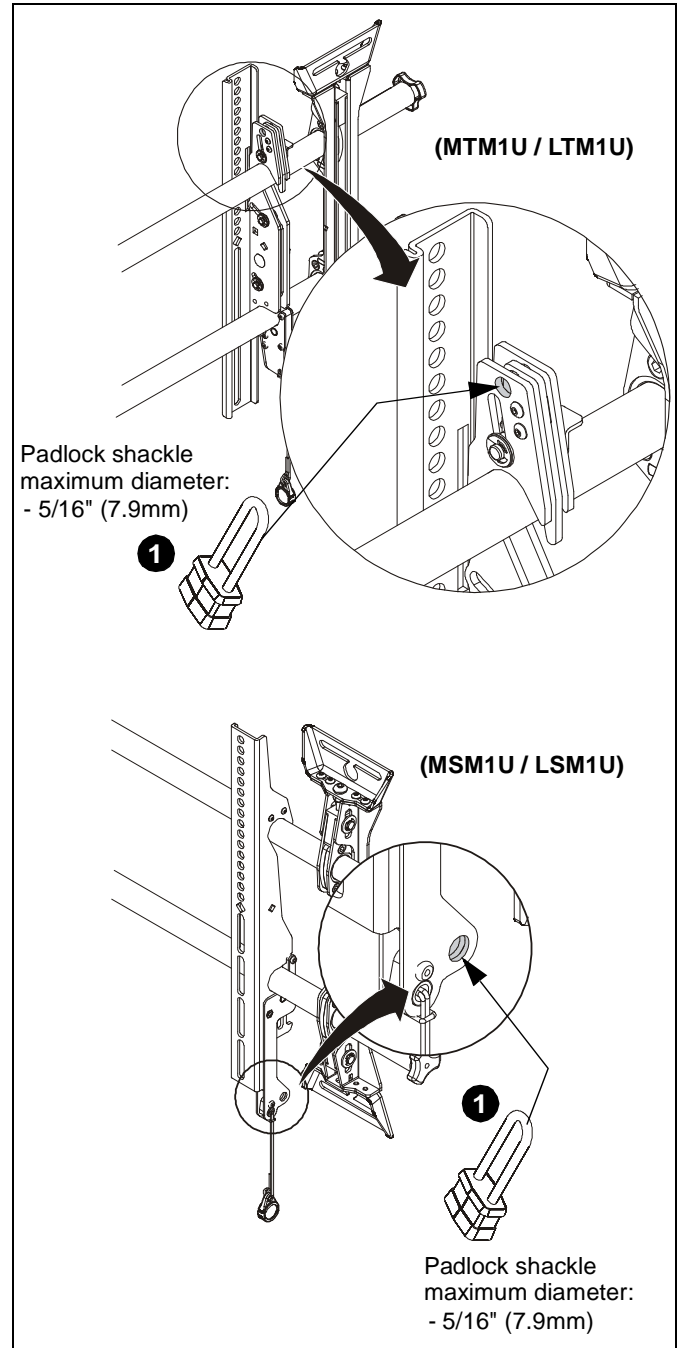

Figure 16
1. Add padlock (not included) to interface bracket to complete security. (See Figure 16)